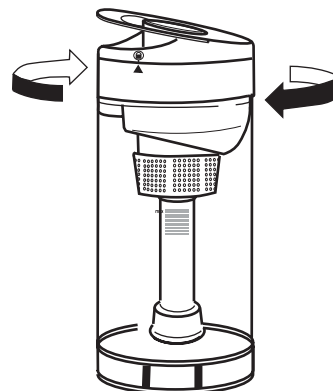

Figure 14d
4. Turn the Handle clockwise to the LOCKED position, the LOCK icon will line up with the arrow on the Collection Bin. (See Figure 14d.)